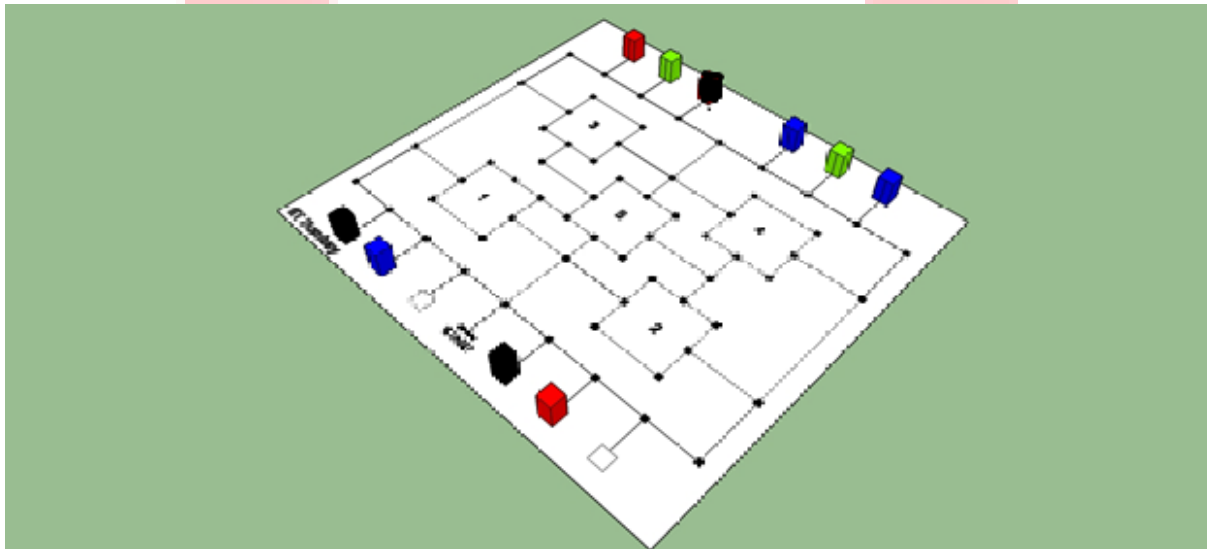

Figure 4: An Example of Placement of Blocks on the Arena
- We provide an example in Figure 4. If the team gets this image for placement of the blocks, they will place the colored blocks as shown in this figure and proceed with the task.